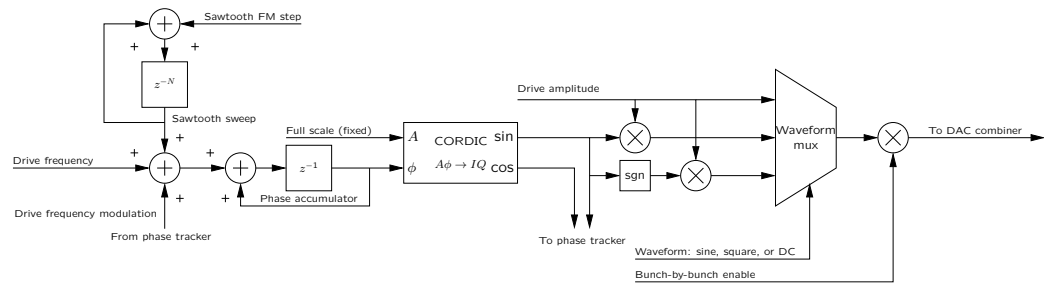

Figure 15: Drive source block diagram
Three independent drive sources are available in iGp12-1332F FPGA, 0, 1, and 2. Each source is based on an numerically controlled oscillator (NCO) with sawtooth frequency modulation (FM) capability and bunch-by-bunch enable. Four output waveform types are supported: sinusoidal, square, triangular, and direct current (DC). Block diagram of a drive source is shown in Figure 15.